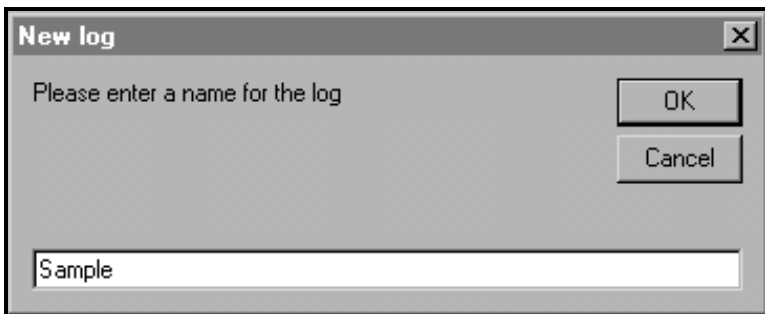

Figure 73: Log Name Dialog Box
- f. Enter a name for the log file in the dialog box shown in Figure 73 below (“*Sample*” was entered for this discussion). Click on the [OK] option button.